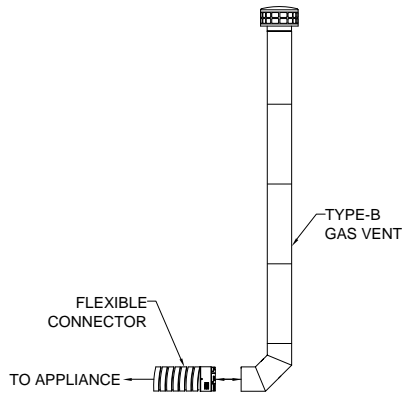

FIG. 2
- b. Inlet of the Type-B gas vent system (See **FIG. 2**), or